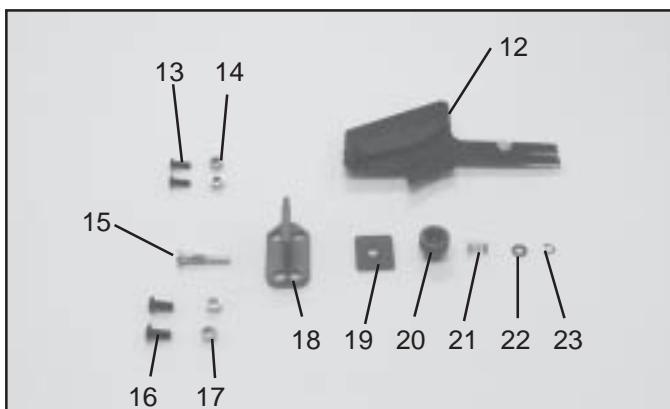

Fig. 2
- 5 - Splitter Assembly (Contents shown in Fig. 2)
- 6 - 1/4-20 x 2-3/4" long hex head screws (3)
- 7 - 1/4-20 x 3-3/4" long hex head screws (3)
- 8 - 1/4" flat washers (12)
- 9 - 1/4-20 hex nuts (6)
- 10 - #10-32 Lock Nut (4)
- 11 - #10-32 x 5/8" Flat HD Screw (4)
1. Locate the components shown in Fig. 2, for the splitter assembly.